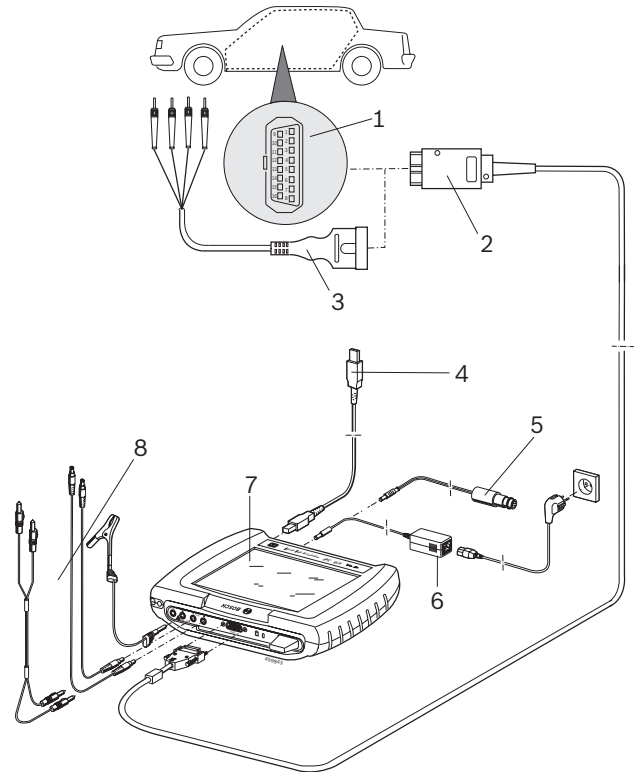

Fig. 3: KTS 340 connection diagram
- The OBD diagnostic cable (Fig. 3, Item 2) or
- The OBD diagnostic cable and additionally the UNI connecting cable (Fig. 3, item 3; special accessory) or